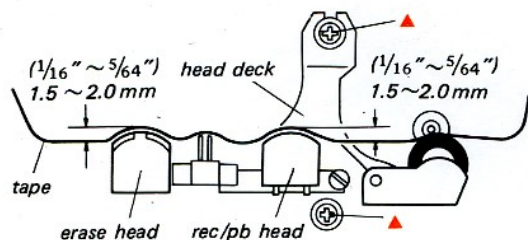

Fig. 3-1-6.
3-1-4. Head Deck Position Adjustment (Fig. 3-1-6.)
2. Loosen the two screws marked with ▲ in Fig. 3-1-6.
3. Adjust the position of the head deck in FWD mode as shown in Fig. 3-1-6.